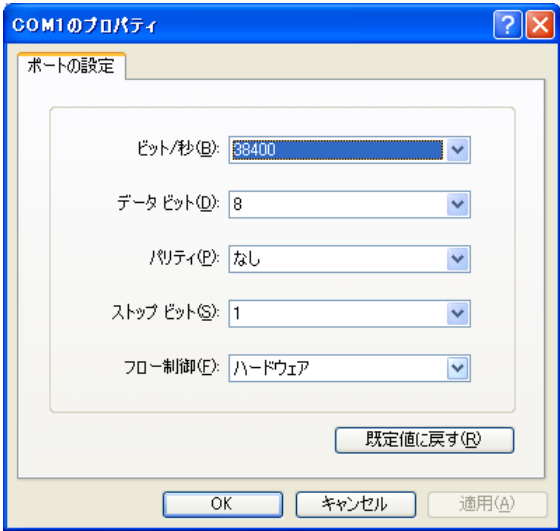

Fig. 19: Property of Port
Reference Port setting is activated from property window of port [Fig. 19] by selecting a connected serial port from view on port tab of printer property, a click on [port configuration (C)] button.